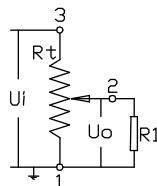

Figure 2A
5.3 The best way is to use the potentiometer as a four-terminal element for adjusting voltage of voltage divider. For wiring, you'd better choose terminal “1” for grounding and R1 (The load resistance of The potentiometer) should be not smaller than ten times as Rt (See figure 2A)